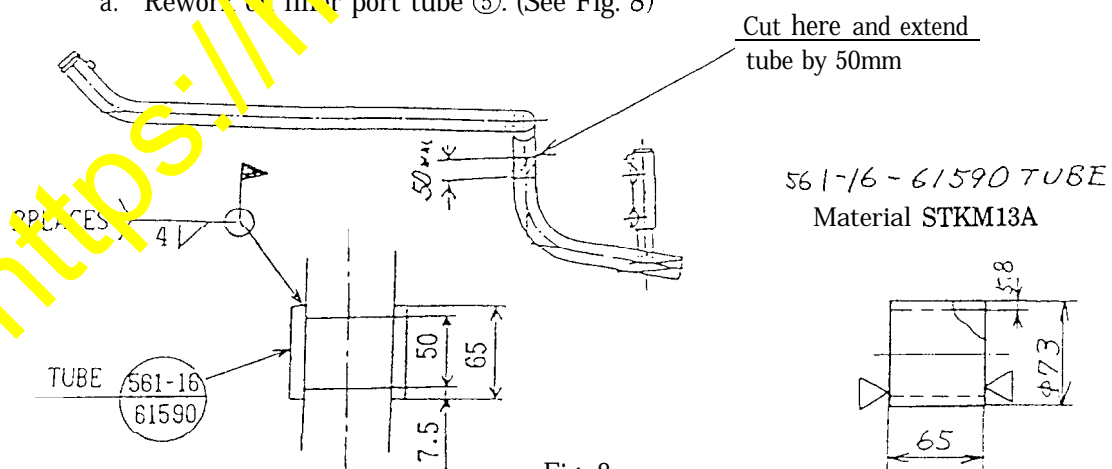

Fig. 8
a. Rework oil filler port tube ⑤. (See Fig. 8)